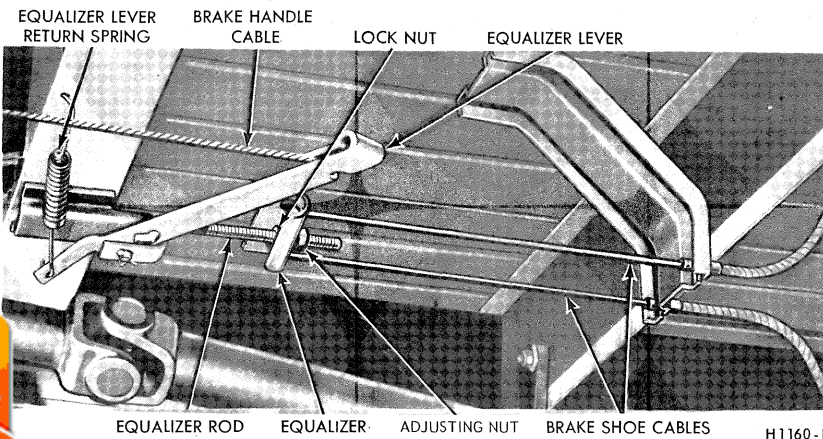

FIG. 12—Parking Brake Linkage
1. Push the equalizer lever slightly forward, and disconnect the ball end of the cable from the lever (Fig. 12).
3. Push the equalizer lever slightly forward, and insert the ball end of the cable in the slot on the equalizer lever (Fig. 12).
3. Loosen the adjusting nut on the equalizer rod, and disconnect the cable from the equalizer (Fig. 12).
4. Remove the hair pin retainer that holds the cable housing to the bracket on the crossmember and pull the cable and housing out of the bracket (Fig. 12).
3. Thread the front end of the cable housing through the frame bracket and install the hair pin retainer (Fig. 12).
5. Insert the ball end of the cable into the equalizer and tighten the adjusting nut on the equalizer rod slightly (Fig. 12).